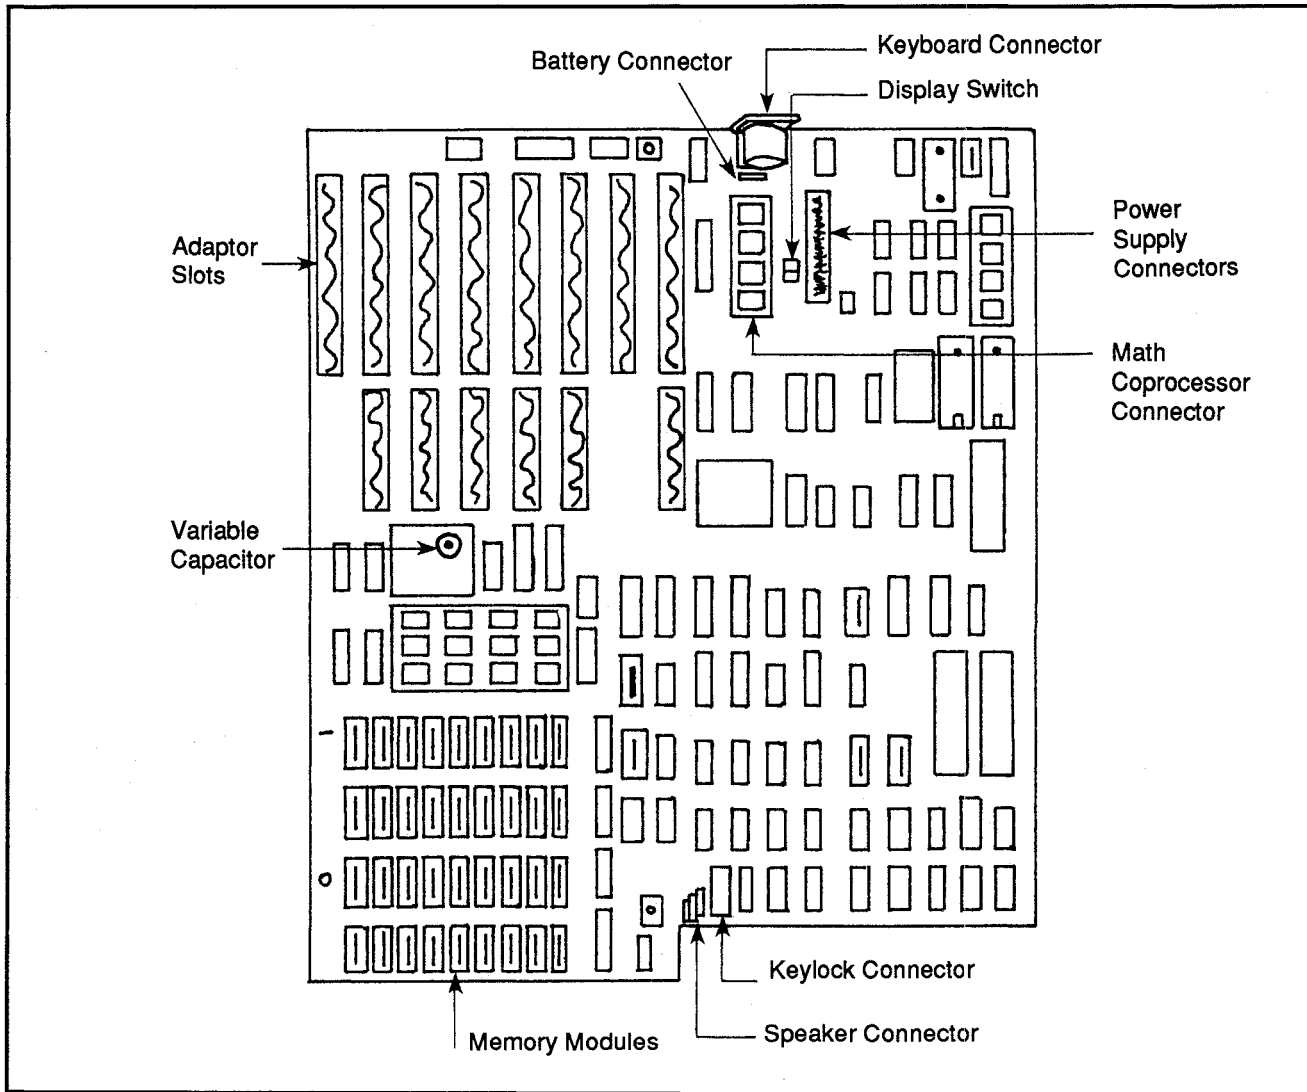

Figure 1: System board layout for IBM 286
**The System Board** The system board for the IBM 286 uses the Intel 80286 microprocessor. The system board layout is shown in Figure 1. The board has a 7-channel Direct Memory Access (DMA) capability with a 16 level interrupt line. Unlike the predecessor, XT and PC models, the board has a built in system clock and a real time clock. There are three programmable times on the board.